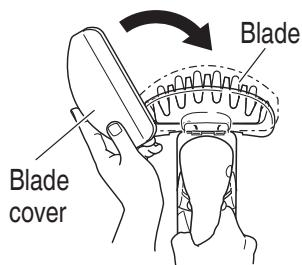

Fig. 7
### 4. Blade cover (Fig. 7) (Standard accessory with CH10DL (CG), CG10DL)